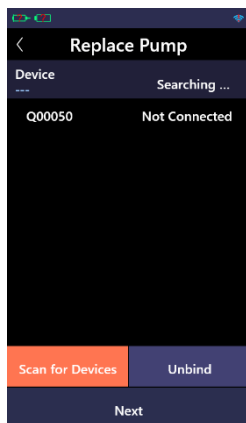

Figure 11.4
(4) Connect, Click "Scan for Devices", the Bluetooth will automatically start to search for available devices, and a list of devices will be displayed (as shown in Figure 11.4).